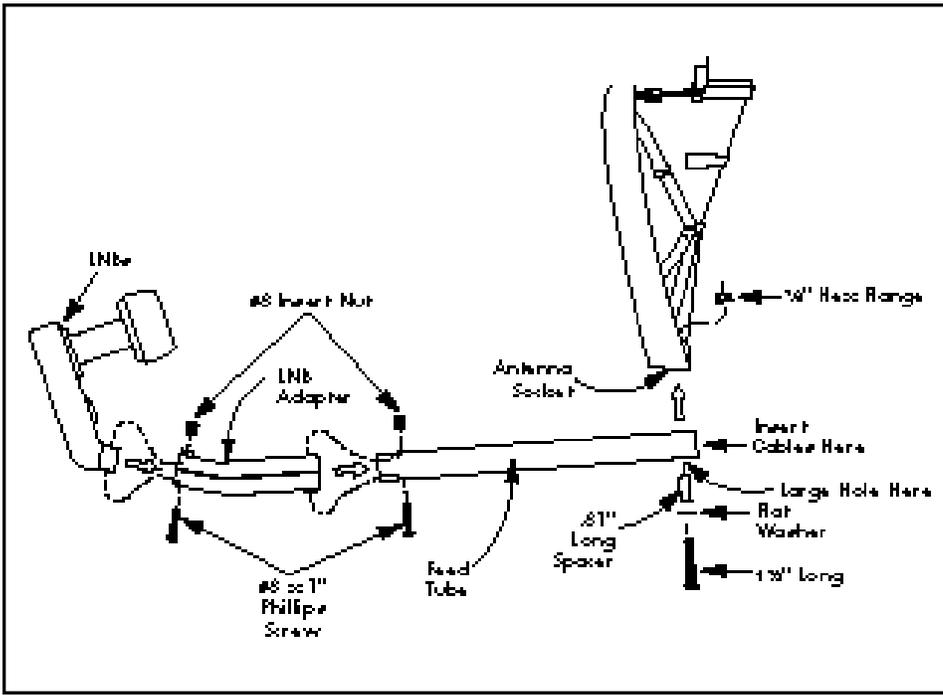

FIGURE 7
12. Attach the rectangular feed tube to the antenna socket. Make certain the large round hole for the spacer is positioned as shown in Figure 7. Tighten bolt while holding nut.
13. Attach the LNB Adapter to the feed tube with #8 hex insert nut and 1" long Phillips head screw. See Figure 7. **Do not over-tighten to the point of deforming the feed tube and the LNB Adapter.**